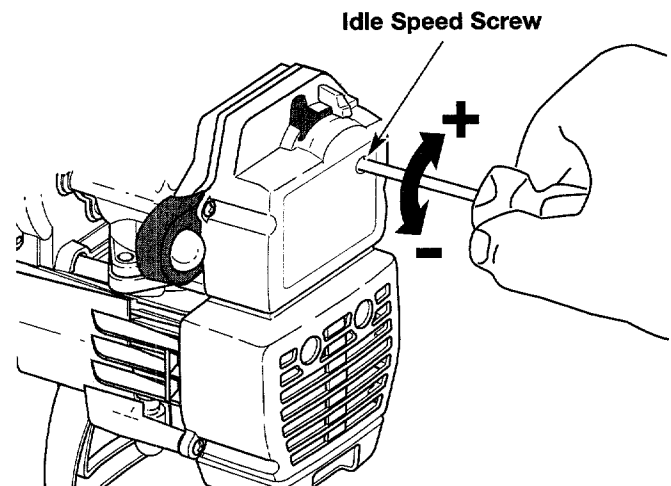

Figure 13
The idle speed adjuster of the engine is adjustable through the air filter/muffler cover. See Figure 13.
2. Release the throttle control trigger and let the engine idle. If the engine stops, insert a small Phillips or flat blade screwdriver into the hole in the air filter/muffler cover. Turn the idle speed screw in, clockwise, 1/8 of a turn at a time (as needed) until the engine idles smoothly. See Figure 13.